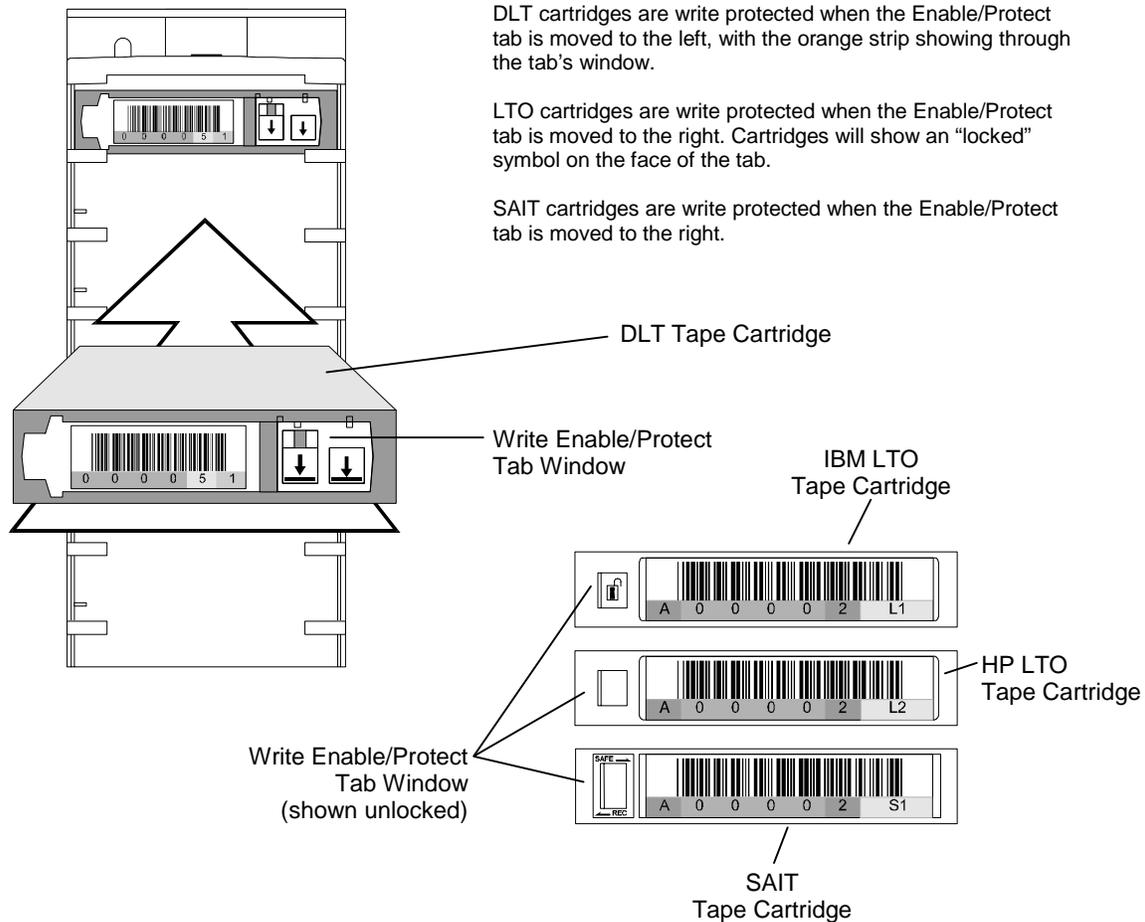
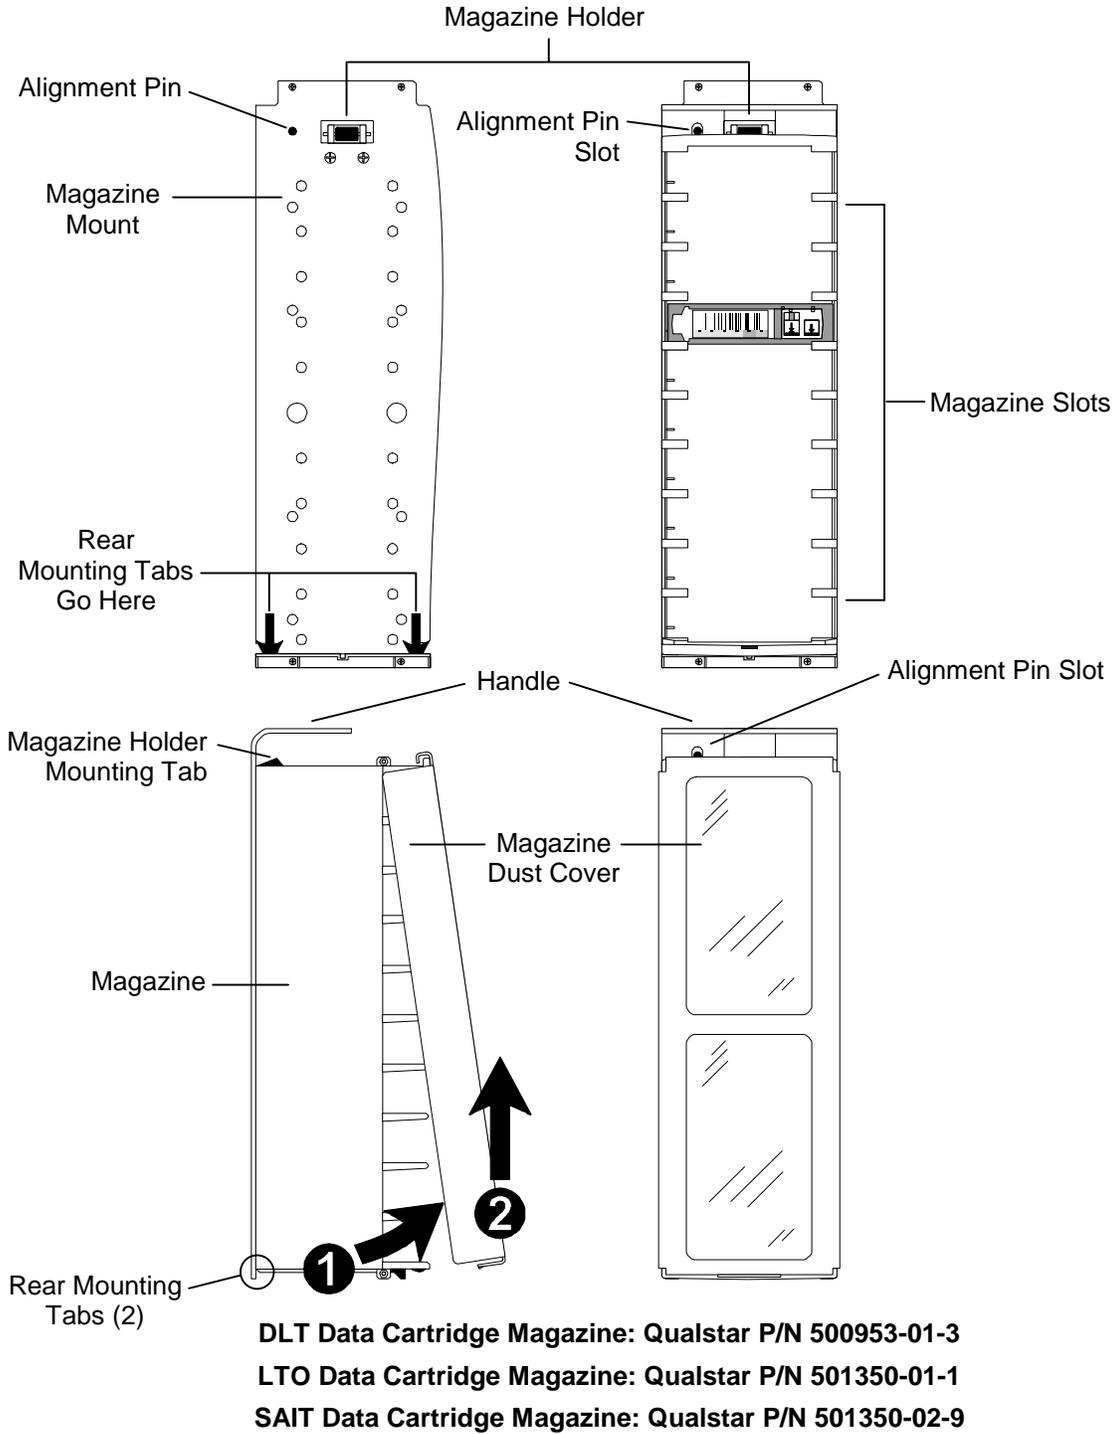

Figure 5-16 Loading a Cartridge Magazine (DLT magazine shown)
Figure 5-17 Magazine and Magazine Mount (DLT model shown)
1. Make certain that the Write Enable/Protect tab is set correctly for the intended use (see Figure 5-16). Write must be enabled for backup operations. Refer to Figure 5-17 to determine the correct orientation of the magazine.
Refer to Figure 5-17 for this procedure.